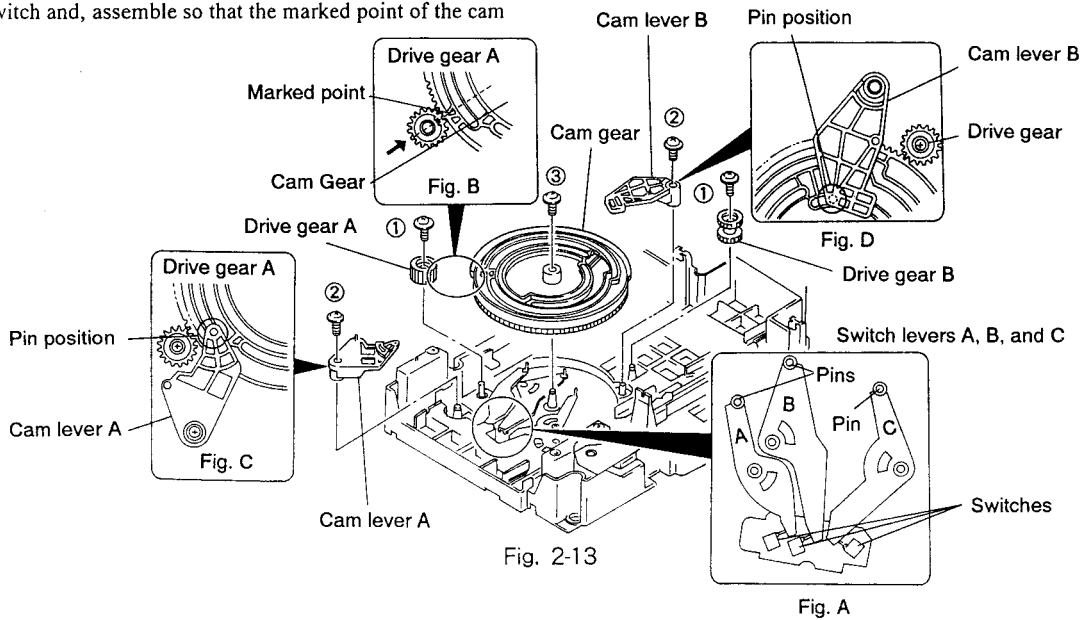

Fig. 2-13
2.10 REMOVAL OF DRIVE GEARS A, B, CAM GEAR, CAM LEVERS A AND B (Refer to Fig 2-13.)